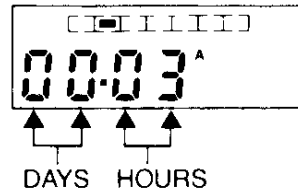

Figure 12.
- (1) Press **SELECT** until you observe your display as in figure 12.
- (2) Press and hold **▲** until the desired hours of override are shown in two right digits.
- (3) Press **☐** until the desired days of override are shown.
Figure 12 shows the factory setting of 3 hours of timed override and no days. Any time the override is used, (by simply pressing